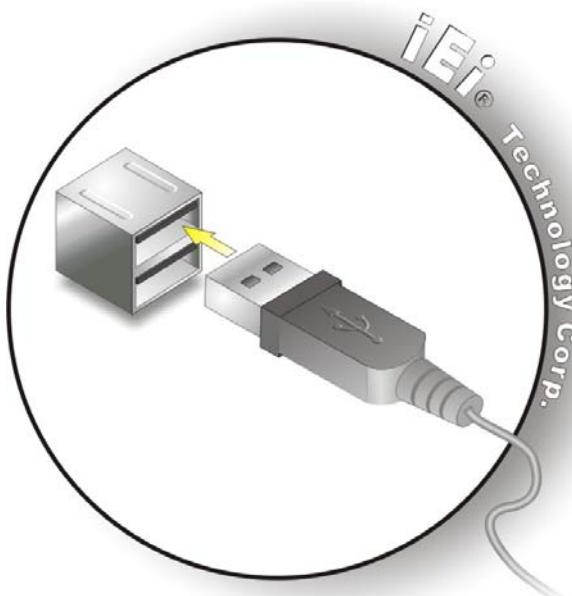

Figure 4-16: USB Connector
**Step 2:** Insert a USB plug. Insert the USB plug of a device into the USB receptacle on the external peripheral interface. See **Figure 4-16**.